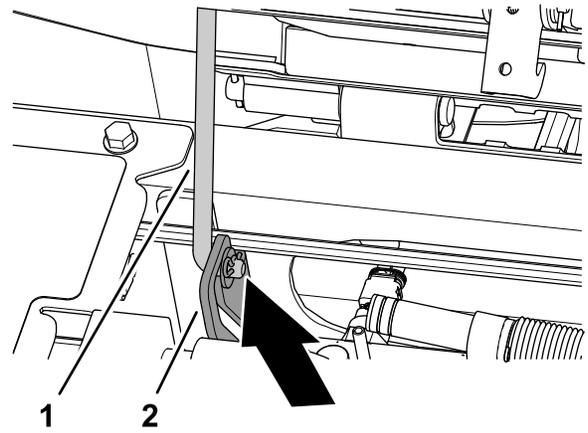

Figure 65
3. Ensure that the forward prop rod seats in the slot detent of the rod-guide plate (Figure 65).